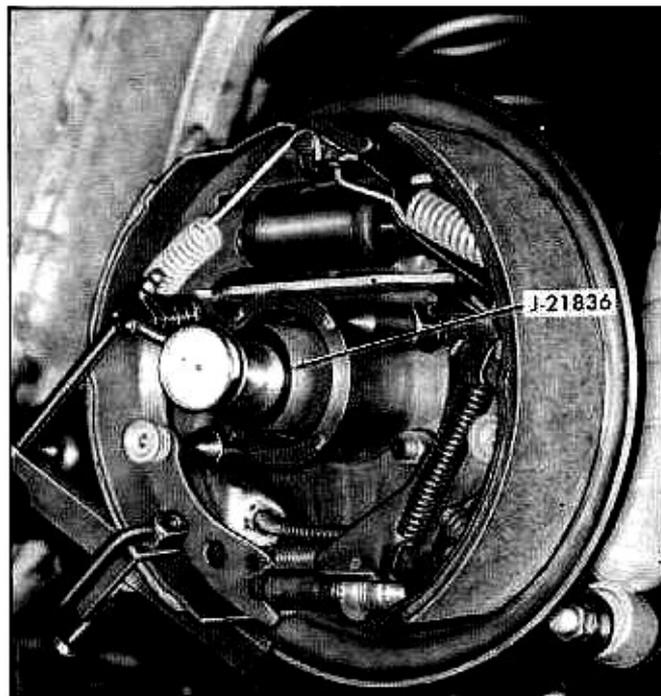

Fig. 16—Gauging Wheel Bearing Shim Requirement
- e. Install dial indicator (J-8001) and position indicator finger against moveable shaft of J-21836 (fig. 16).